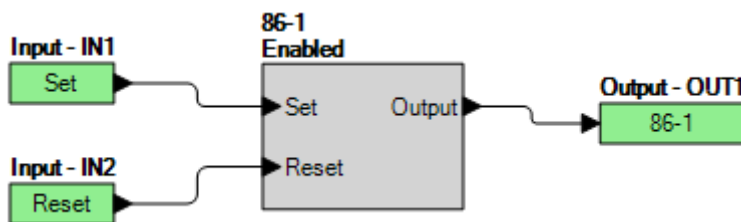

Figure 70-1. BESTlogicPlus Settings
Step 2: Use BESTCOMSPPlus to configure the BESTlogicPlus programmable logic shown in Figure 70-1.